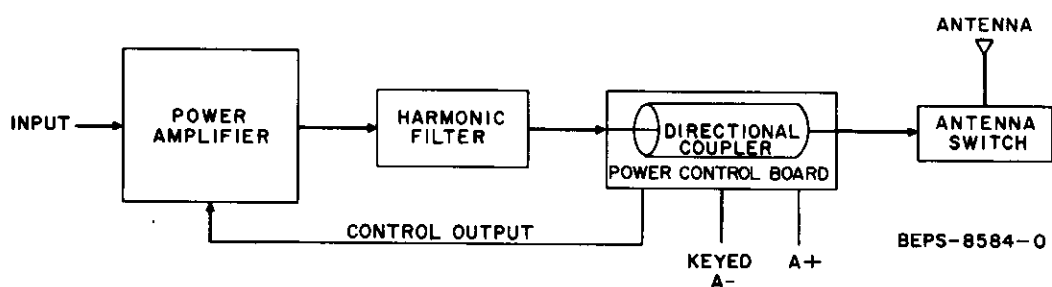

Figure 2. Loop Block Diagram
2.2.1 Refer to the loop block diagram, Figure 2. The circuitry operates as a control loop which continually monitors the output from the final stages of the transmitter power amplifier and controls that output by regulating the gain of the first stage of the power amplifier.